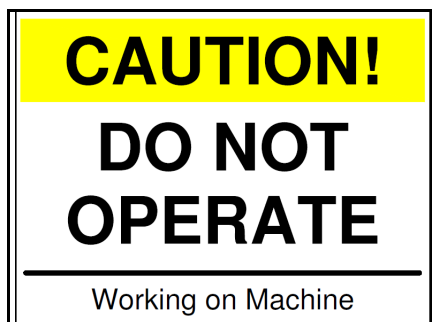

Figure 2-13: Caution Sign
6. Place the "Caution" sign on the monitor (Figure 2-13).